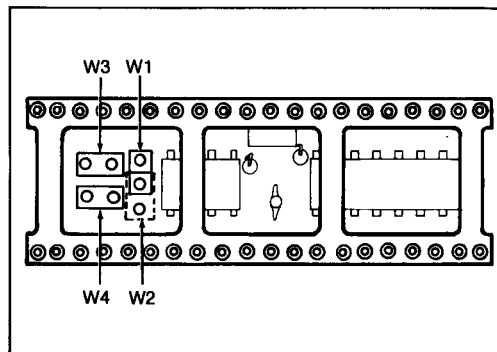

Figure 1. UUT Adapter Jumper Locations
- Refer to Figure 1. Using tweezers or needle-nose pliers, position the jumpers on the top of the circuit board as indicated in Table 1.